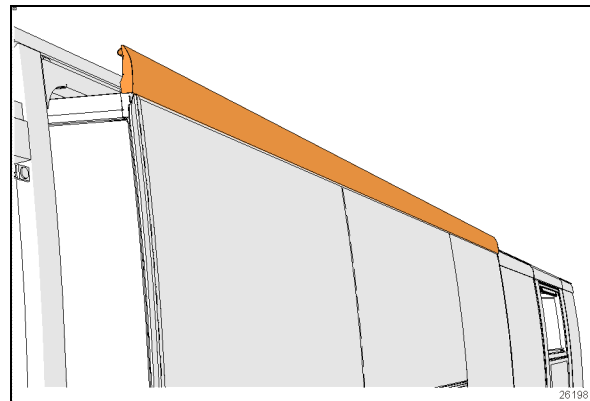
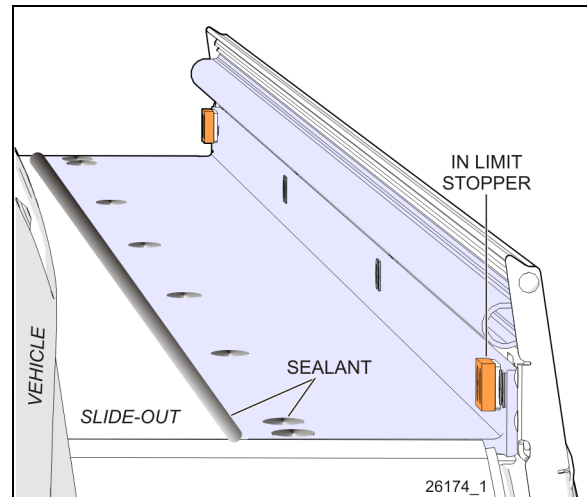

FIGURE 18 TOP EXTRUSION
FIGURE 30: EXTERIOR EXTRUSION
2. Turn the ignition to the off position. Using the manual override procedure (Paragraph 5), extend the slide-out a few inches so the exterior extrusion screws located on the top of the slide-out are accessible from outside (Figure 30).
7. Using a knife, cut the sealant between the Top extrusion and the roof. (Figure 18, Figure 30)
8. Remove the screws holding the top extrusion to the room structure. (Figure 18)
13. Once completed, use the manual override procedure to extend the slide-out and reinstall the exterior extrusion. Apply appropriate sealant on the exterior extrusion screws and between the extrusion, the roof and the edges to prevent water infiltration (Figure 30).